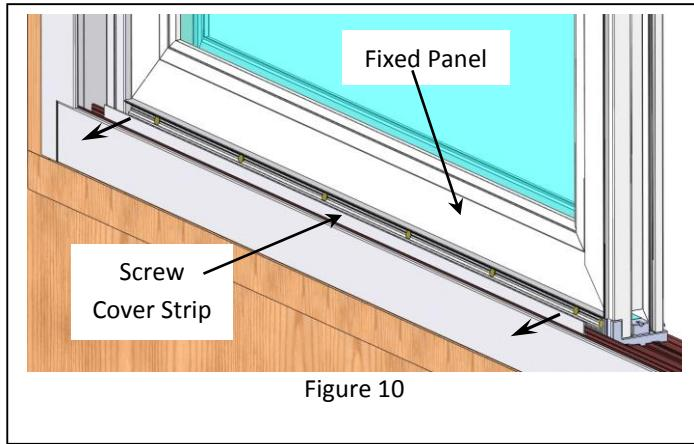
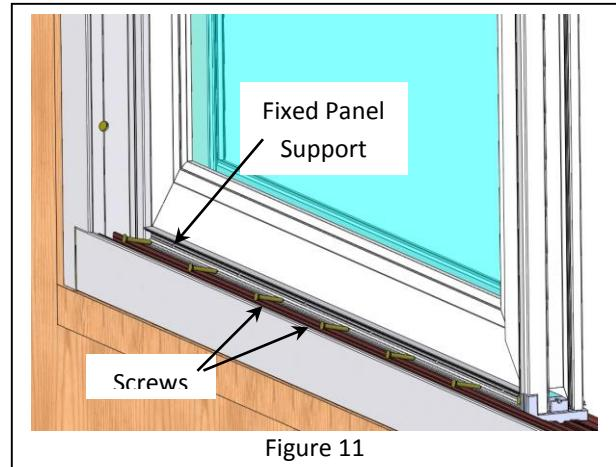

Figure 10
Figure 11
7) Remove the Screw Cover Strip at the bottom of the Fixed Panel on the interior of the door as shown (Fig. 10). The Cover Strip is snapped in. Set the Cover Strip aside and remove the screws that fasten the Fixed Panel Support to the Panel (Fig. 11).